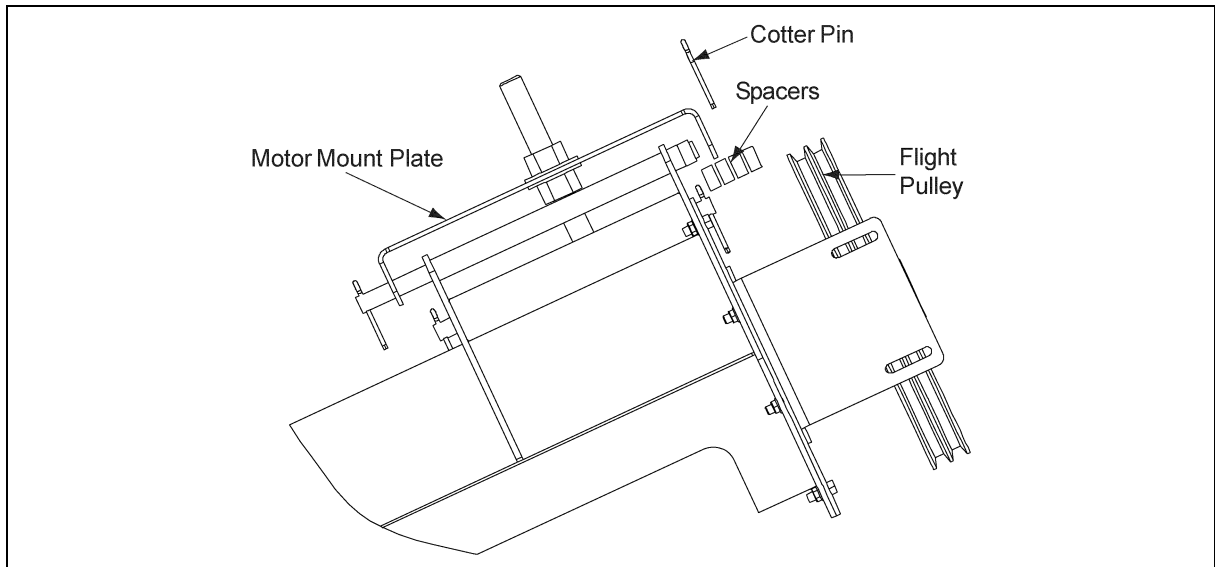

Figure 4J
- B. Install pulley onto motor shaft making sure that it is aligned with the flight pulley. It may be necessary to move spacers to gain shaft alignment. (See Figure 4J).